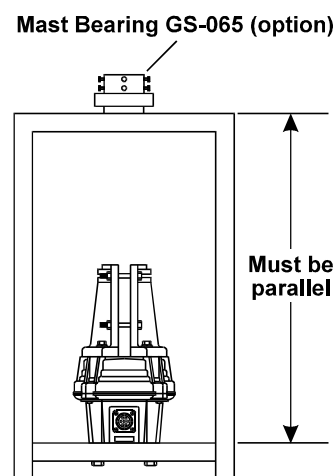

Figure 3
3. If a thrust bearing (such as the optional Yaesu model **GS-065**) is to be utilized, mount it on the top of the tower (see Figure 3) using the supplied hardware.